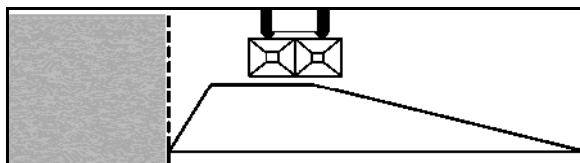

Fig. 31
1. Boundary spreading in accordance with fertiliser ordinance (Fig. 31):